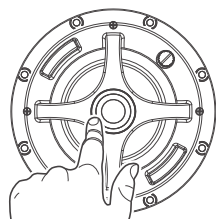

Figure 8:
8. Pivoting tweeter assembly allows the treble to be directed to the most suitable location if the speaker is installed off-axis. To pivot the drivers apply light pressure to the ring around the outside edge of the tweeter cone. Take care not to touch or apply pressure to the cone itself (see Figure 8).